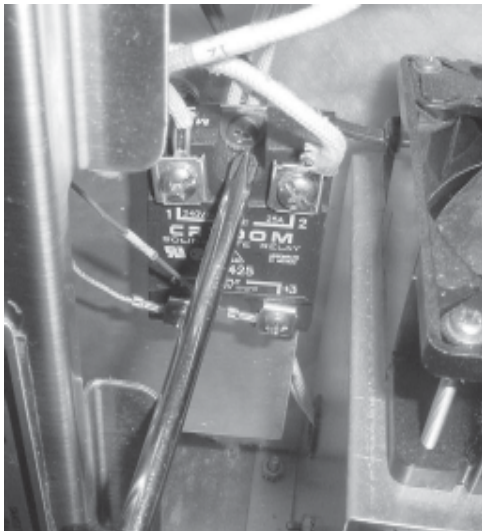

Figure 2-16
9. Using a Phillips head screwdriver, remove the screws securing the relay and remove relay from unit (Figure 2-16).